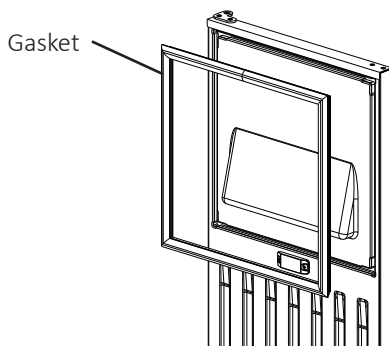

Fig. 10
- 8) Remove the gasket from the door (See Fig. 10).